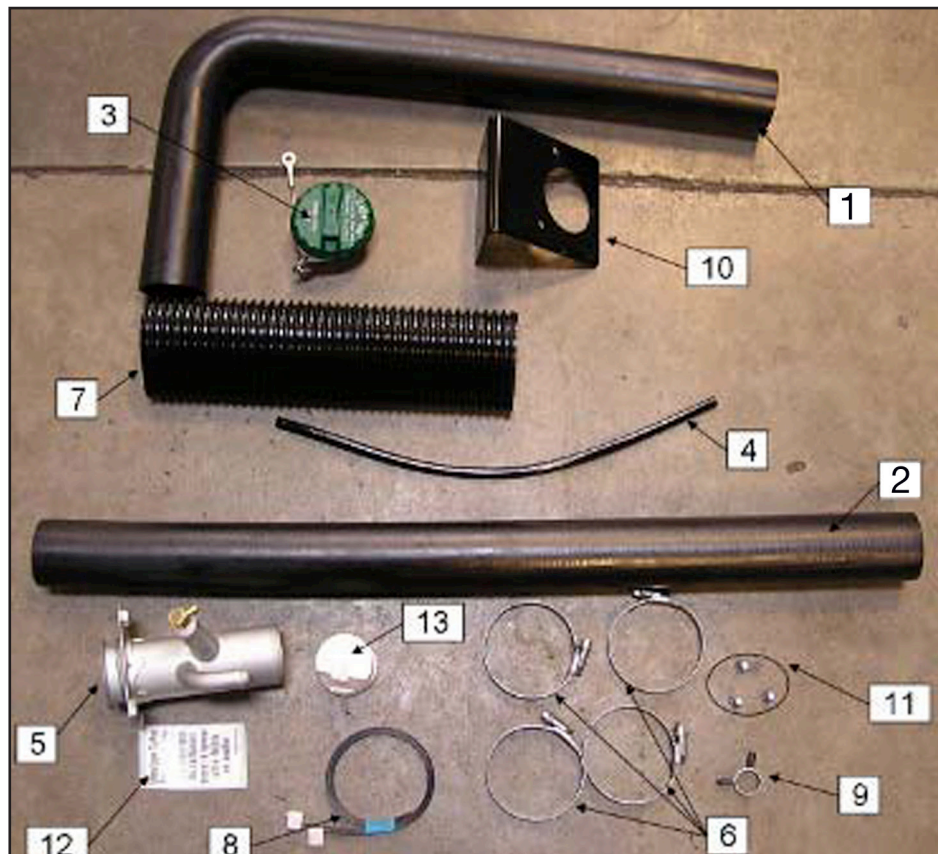

Figure 12.32.1
The fuel tank shutter valve (13) was a new component for 2011 model year. This component is meant to improve fuel splash-back performance of the fuel system. In the 2012 model year a running change was made and this valve (13) was relocated from the fuel tank inlet to the inlet (outboard side) of the fuel filler neck bulkhead assemble that is bolted to the left hand frame rail as shown in **Figure 12.32.1**. This plastic valve snaps into place in the inlet of the frame mounted fuel pipe. The valve should be installed so that the plastic clip is at the top of the valve, so that the flap door opens up, as shown in **Figures 12.32.2**.